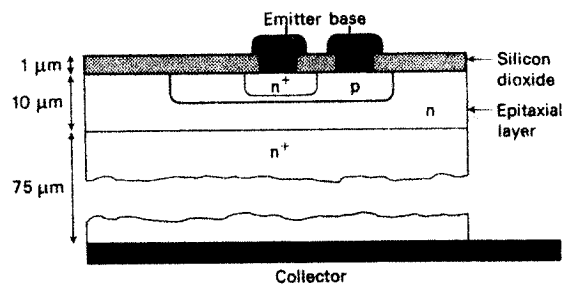

Figure 1. A sectional view of an  $n^+$ -p-n BJT
- a. The fabrication of modern bipolar junction transistors (BJTs) employs the planar epitaxial process in which a BJT device layers are formed through growth of single-crystal films on the surface of a silicon wafer resulting in a structure shown figure 1. Contacts for connecting the BJT to the external circuit are then fused onto the active region through metallisation.